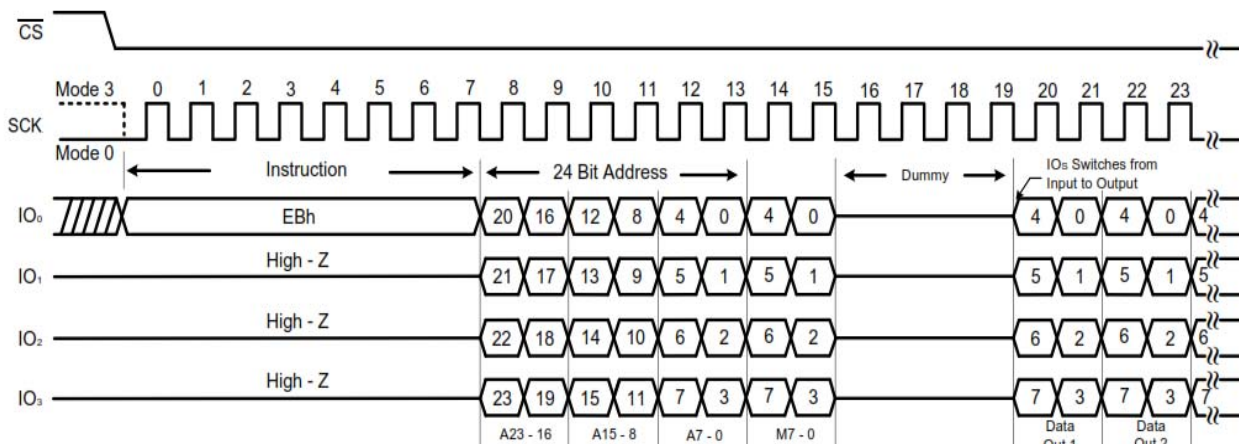

Figure 21. Fast Read Quad I/O Command (Initial command or previous M7-0 ≠ Axh, SPI mode)
The Fast Read Quad I/O command can further reduce command overhead through setting the Mode bits (M7-0) with following the input Address bits (A23-0), as shown in Figure 21. The upper nibble of the Mode (M7-4) controls the length of the next Fast Read Quad I/O command through the inclusion or exclusion of the first byte command code. The lower nibble bits of the Mode (M3-0) are don't care (X). However, the IO pins are going to be high-impedance prior to the falling edge of the first data out clock.